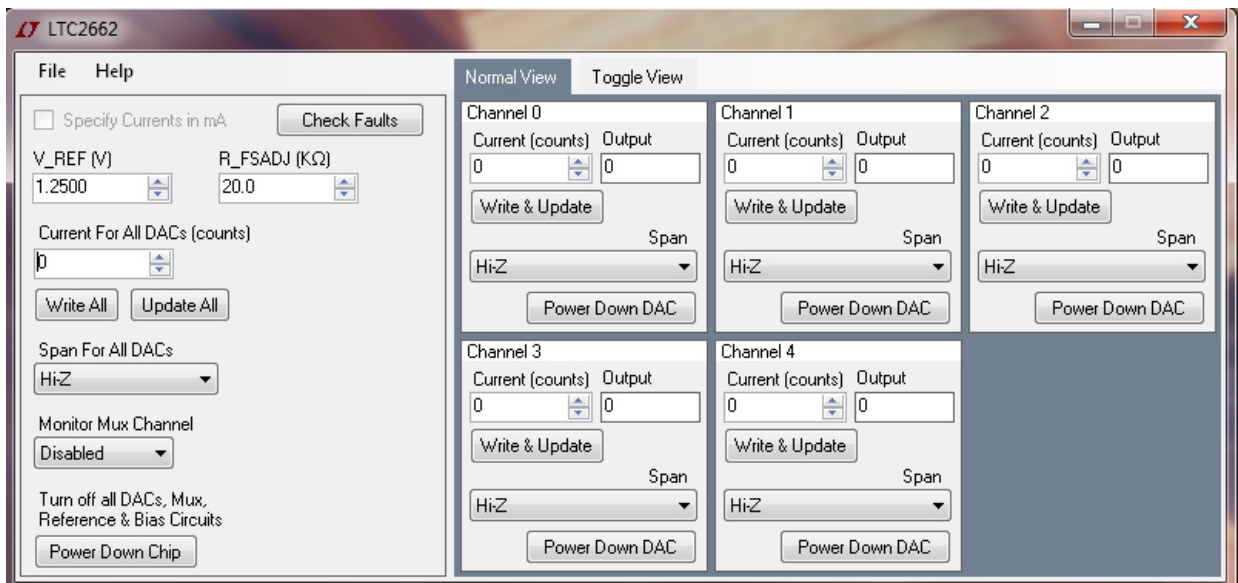

Figure 2. Main Control Panel
4. Connect the controller to the host PC's USB port and run QuikEval. The DC2692A software will be downloaded and installed, after which the GUI will appear as shown in Figure 2. The control panel gives access to all